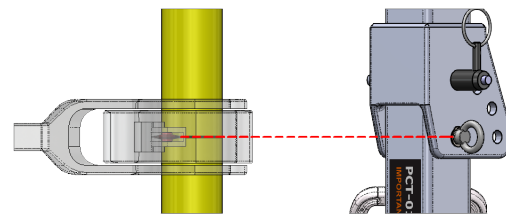

Fig 10
- Align the ratchet pipe cutter blade to the cut mark. (Fig 10)